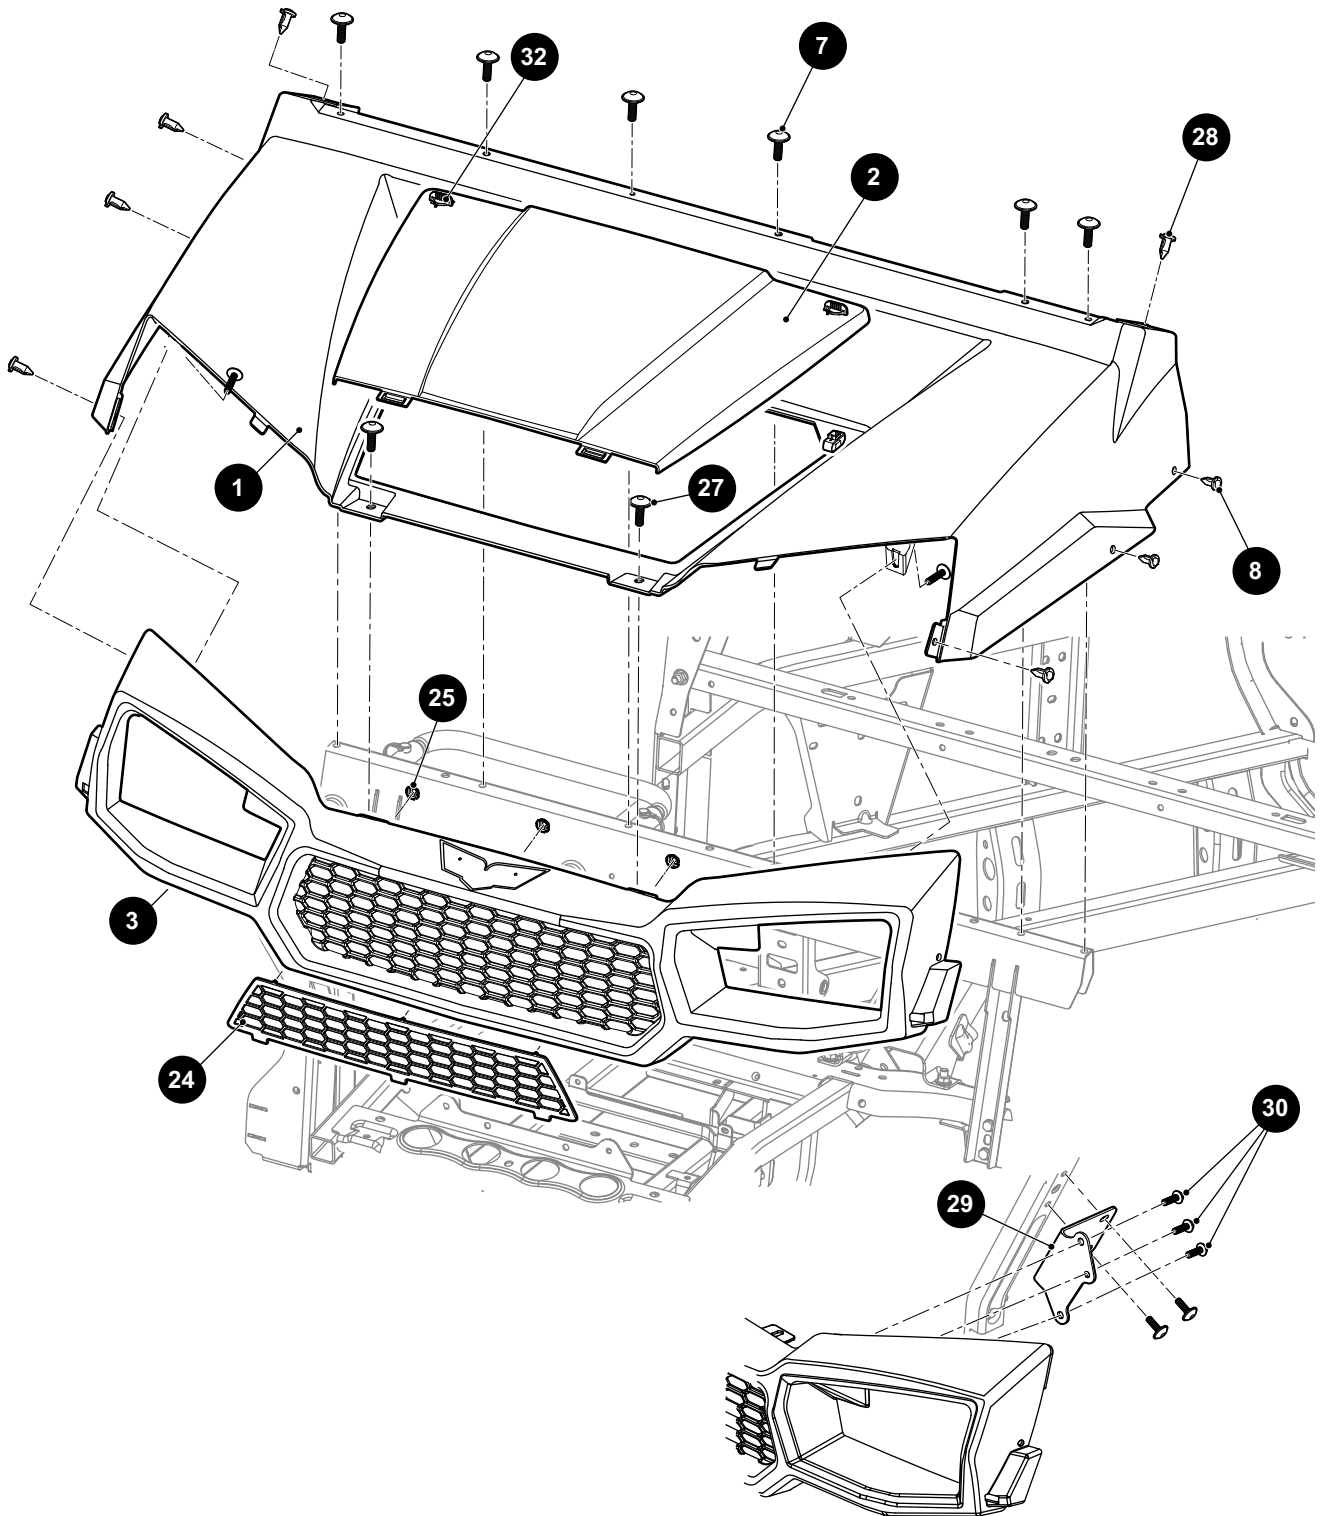

Fig. 1 Cowl and Front Fascia
1. Unlock the quarter-turn fasteners (32) on the hood (2). Open the hood and pull up and back to remove (See Fig. 1).
2. Remove the nuts (25) that secure the grill (24) to the front fascia (3). Remove the grill.
3. Remove the bolts (30) that secure the sides of the fascia to the mounting brackets (29).
5. Remove the plastic rivets (8) and screws (27) that secure the fascia to the cowl (1). Remove the fascia from the vehicle.
6. Remove screws (7) and plastic rivets (8) that secure the cowl (1) to the frame. Remove the cowl.